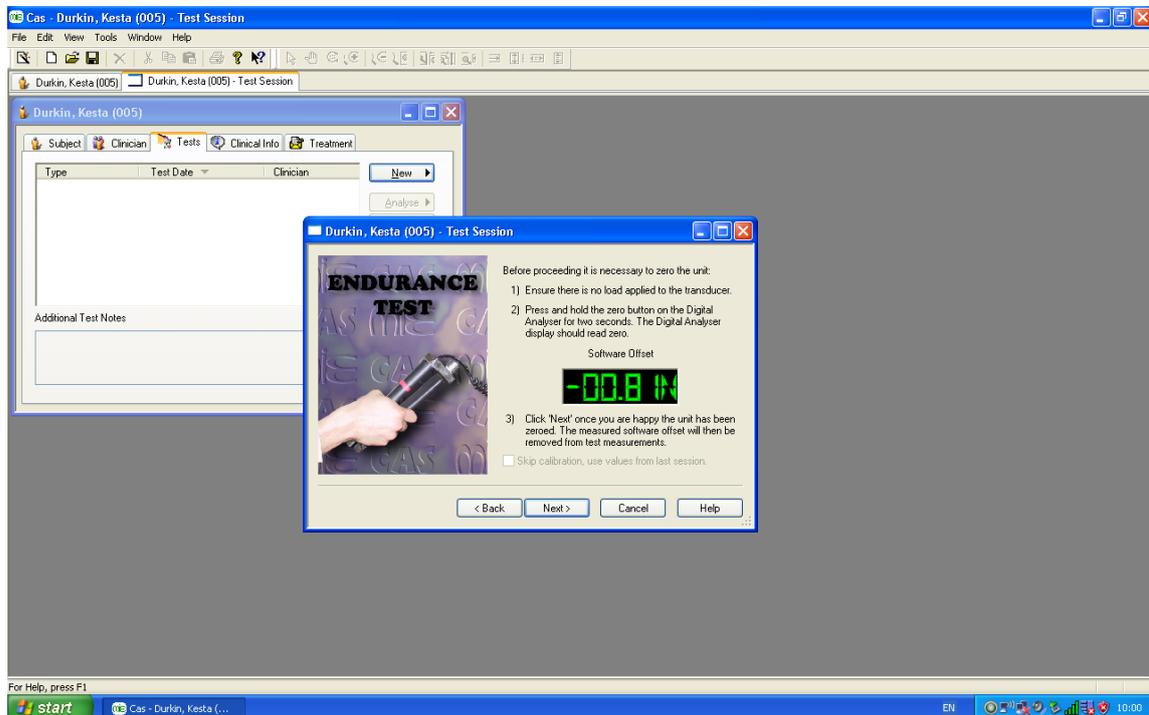

Figure 6.
5. The wizard asks you to zero the machine. Press and hold in the “zero” button on the front of the machine for 5 seconds. After doing so, click “next” (figure 6).